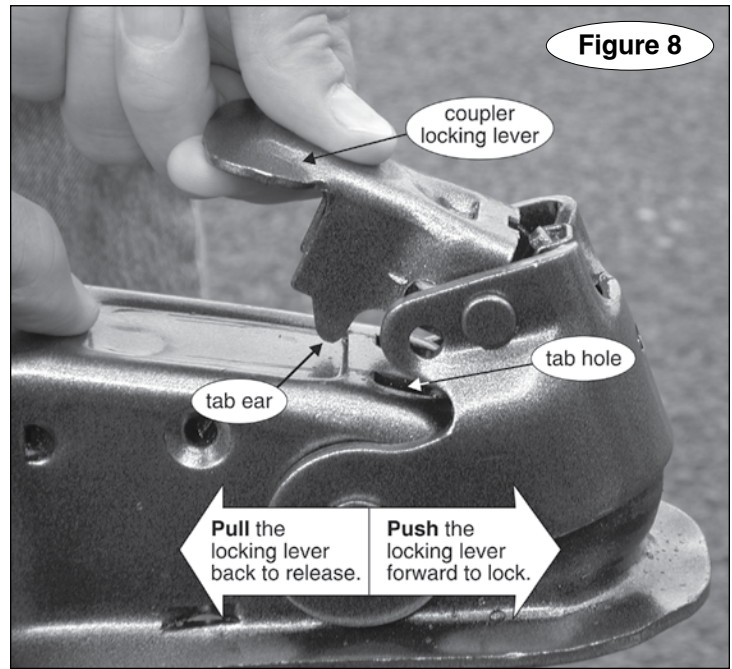

Figure 8
With the coupler over the ball, raise the coupler locking lever (Figure 8) until the tab ‘ear’ (Figure 8) just clears the tab hole (Figure 8), and pull straight back toward the towed vehicle.
4. Pull back on the coupler locking lever (Figure 8) to release the coupler, and lift the coupler off the ball.
- Always cross the cables under the hitch receiver, as shown in Figure 8 (above). In the unlikely event the tow bar separates from the motorhome, crossing the cables will help prevent the tow bar from dragging on the ground, which can cause the tow bar to "pole vault" the towed vehicle.